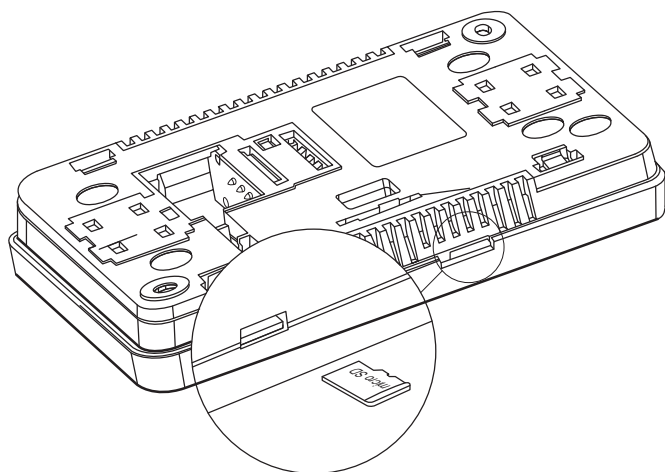

Figure 12-2 Memory card slot
1. Insert memory card into the indicated socket on the touchscreen display. Refer to Figure 12-2.